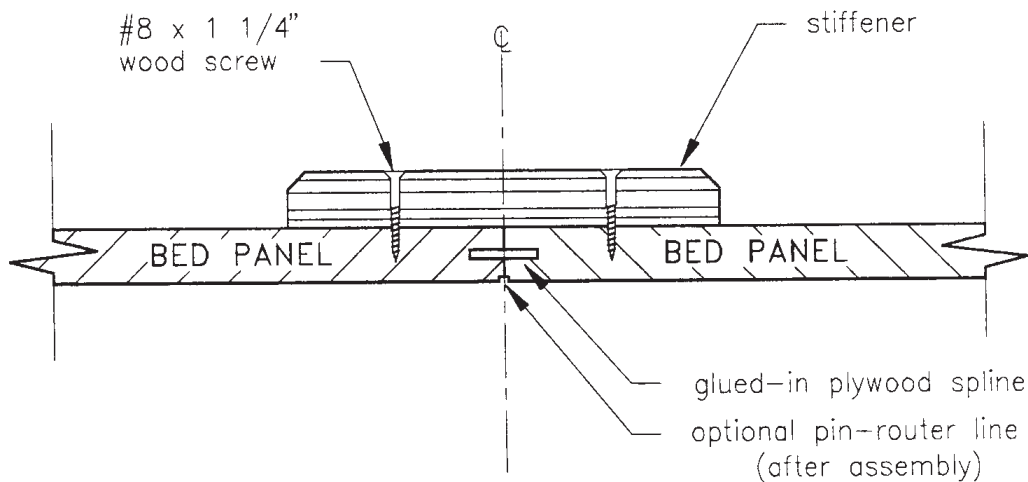

Figure 6. Cross section of Bed Panel Joinery
- Skip this step if you are constructing a Single/Twin bed using a one-piece Bed Panel. Drill, bevel edges of, PANEL STIFFENERS, see **Figure 6 & 7**. In each PANEL STIFFENER drill and countersink two rows of 3/16" holes about 1 1/2" in from each side and 4" apart, that will accept #8 x 1 1/4" flathead wood screws. Also, to prevent mattress damage, bevel or slightly round all the top edges of these Stiffeners.
- If you are constructing a **Single/Twin** bed using a one-piece Bed Panel, skip the next step below and proceed with the step following. Refer to **Figures 6** and **7**. Join the BED PANELS with a plywood spline 15/16" wide and the same length as the bed panels. Using a table saw or router, cut a groove 1/8" wide and 1/2" deep on the inside edge of both BED PANELS. Test the fit. Position the panels on a flat surface, spread glue on spline and both panel edges and clamp splined panels with bar clamps.